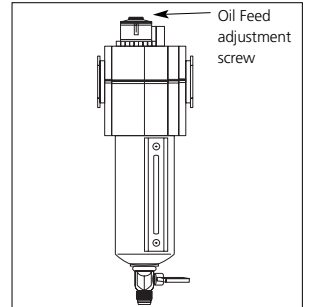

Figure 1
3. The oil flow is controlled by the sight dome adjustment screw (See Figure 1). Turn counter-clockwise for more or clockwise for less oil delivery. The oil delivery rate automatically adjusts with changes in air flow.